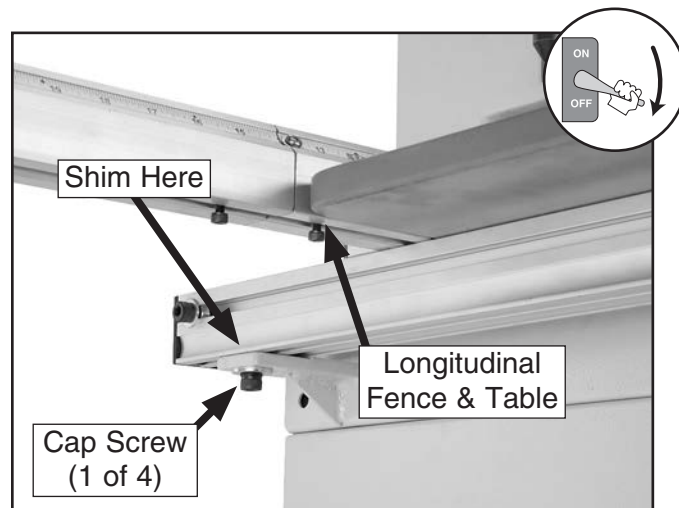

Figure 37. Adjusting table parallelism.
3. Loosen the cap screws that secure the cross fence (see **Figure 37**), and shim between the mounting bracket and the cross fence.